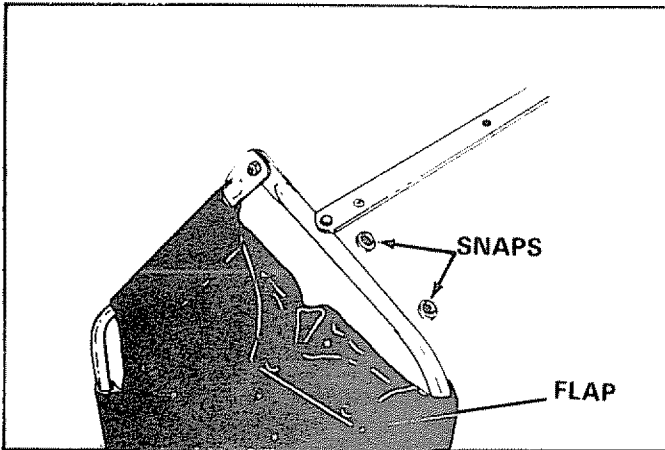

FIGURE 18
- Secure the bag corners over lower hopper tube by snapping the flap to bag bottom on each side. See figure 18.